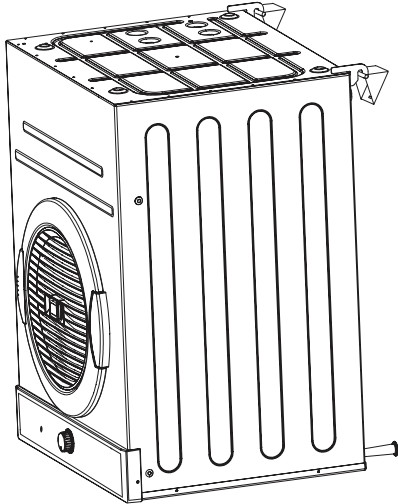

Fig. 3
5. With assistance, mount dryer on wall brackets. See Fig. 3